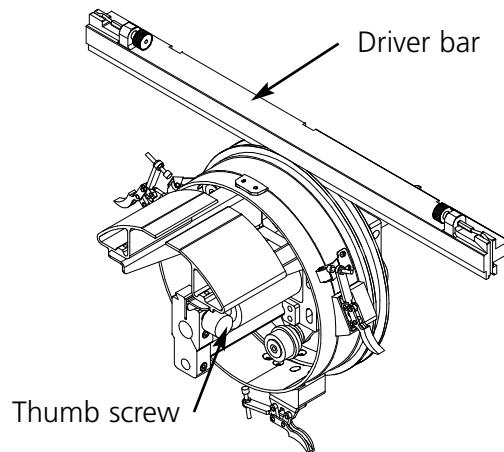

Figure 3-14
6. Loosen the thumb screw on the male dove tail bracket on cap frame driver (Figure 3-14).